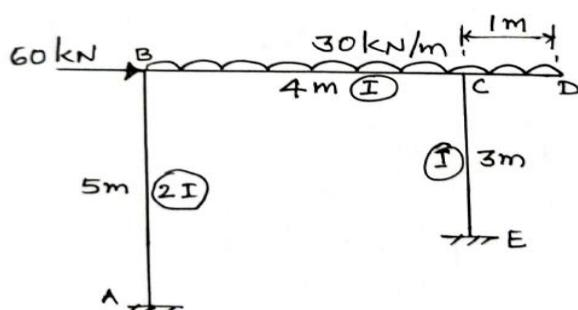

Fig Q4
4. Analyze the rigid frame shown in Fig Q4 by Moment Distribution method. Sketch the BMD and the elastic curve.